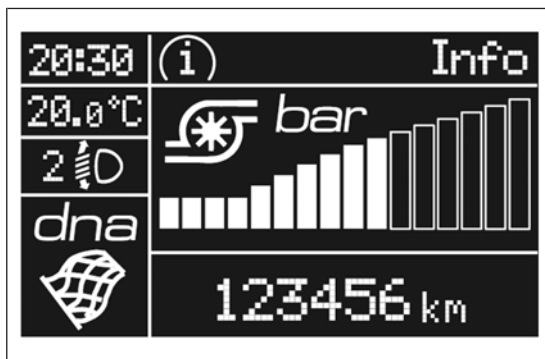

fig. 83
- Dynamic mode** fig. 83 (display image available for versions/markets, where provided)